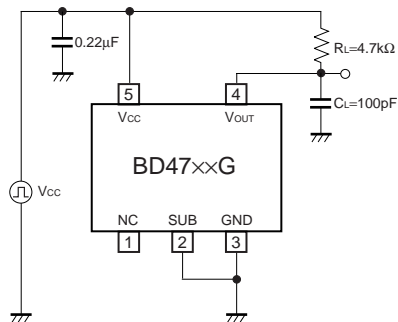

Fig.5 Transfer delay time
(6) This IC is a bipolar IC which (as shown in Figure 5) has P+ isolation in the P substrate and between the various pins. A P-N junction is formed from this P layer and the N layer